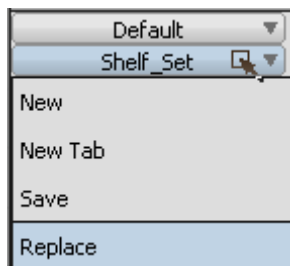
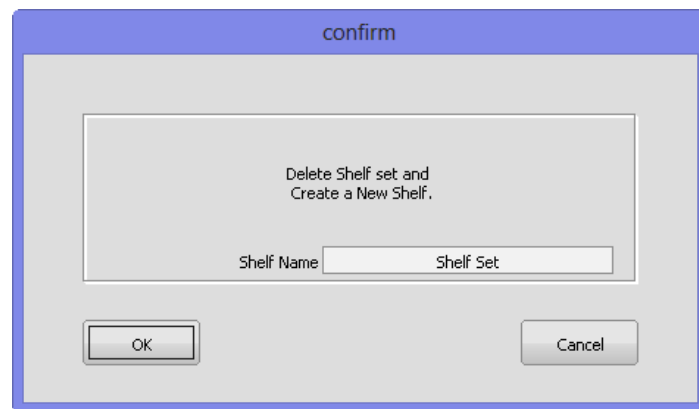

Figure 1-33 The Shelf flyout
Figure 1-34 The *confirm* message box
2. Create a new shelf in the **Control Panel**. To do so, press and hold the left mouse button on the **Shelf_Set** button in the **Control Panel**; the **Shelf_Set** flyout will be displayed, as shown in Figure 1-33. Choose the **New** option from this flyout; the **confirm** message box will be displayed, as shown in Figure 1-34. In the **confirm** message box, enter the new name (Surface) in the **Shelf Name** edit box and choose the **OK** button; a new shelf with the entered name will be displayed.